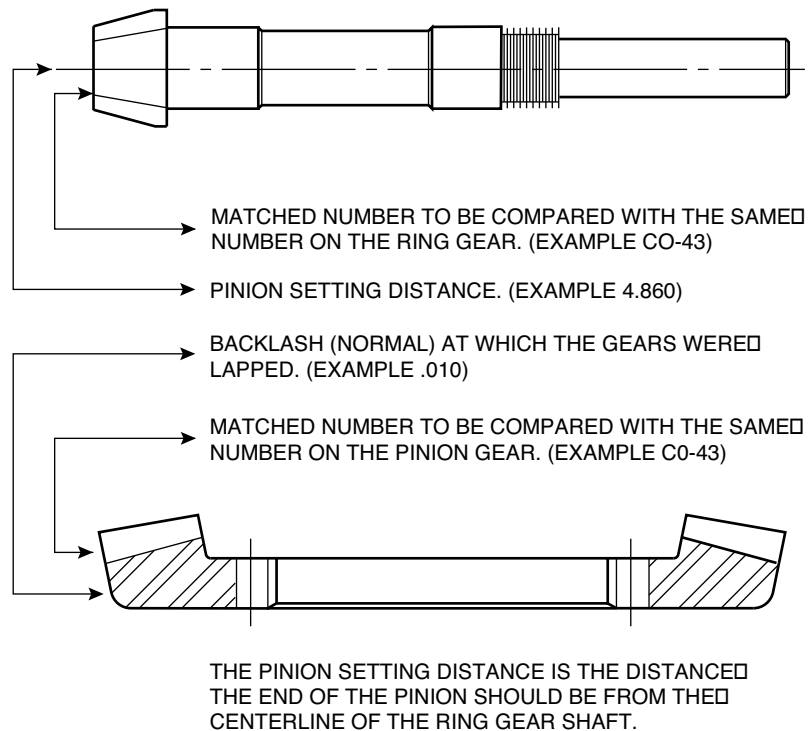

Figure 4 – Gear Match Numbers and Setting Data
Note—The thickness of the shim pack (320) is important in resetting the gears. The shim pack should either be saved or carefully measured with a micrometer. If the gears are to be replaced, record the pinion setting distance that is etched on the pinion gear. See **Figure 4**.
4. Remove bearing retainer and shim pack (420) from top of case.
Before assembling a new pinion gear in the pinion cage, check match numbers on pinion gear and spiral bevel ring gear to be certain that they are a matched set. Gears are lapped in matched sets at the factory and should not be separated. Numbers are etched on both the pinion and ring gear as illustrated in **Figure 4**.
1. Place oil slinger (301) on pinion shaft.
2. Press head bearing cone (311) on pinion shaft making sure oil slinger and bearing are against gear.
5. Press tail bearing cone (312) on pinion shaft until it mates with its bearing cup.
7. Install O-ring (503) in groove on pinion cage.
10. Record the pinion setting distance that is etched on the pinion gear. See **Figure 4**.